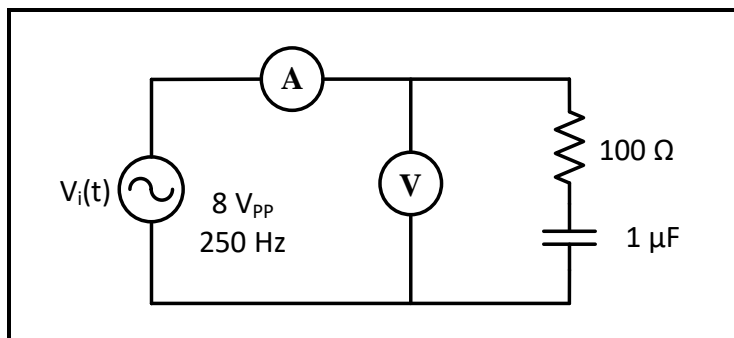

Figure 7.10
4. Connect the circuit in Figure 7.10, set V_{in} to sinusoidal voltage at $8 V_{PP}$, and $f = 250$ Hz.